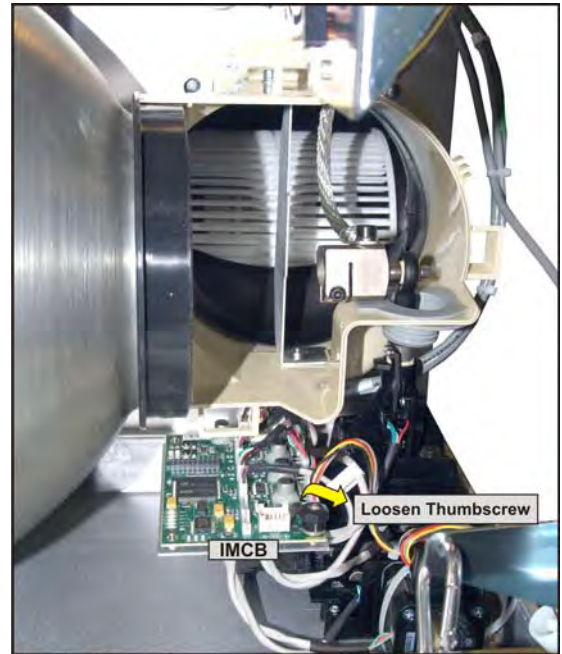

Figure 5-41 Remove IMCB
4. Loosen the thumbscrew securing the IMCB. **(Figure 5-41)**